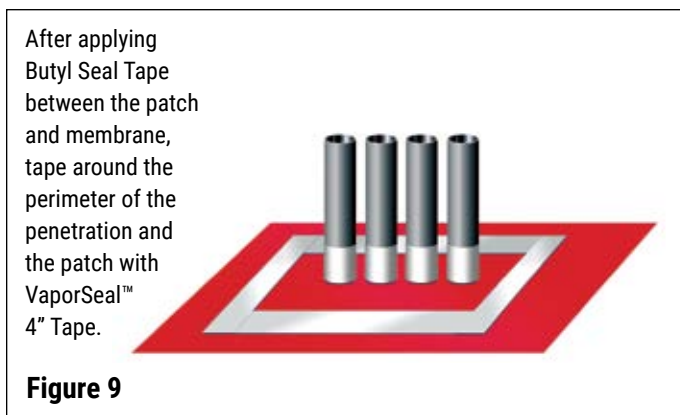
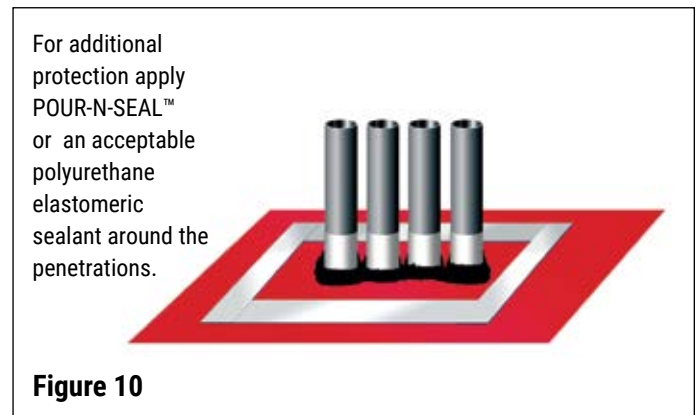

Figure 9
Figure 10
- E) After applying Butyl Seal Tape between the patch and membrane, tape around each of the penetrations and the patch with VaporSeal™ 4" tape. (Fig. 9) For additional protection apply POUR-N-SEAL™ or an acceptable polyurethane elastomeric sealant around the penetrations. (Fig. 10)